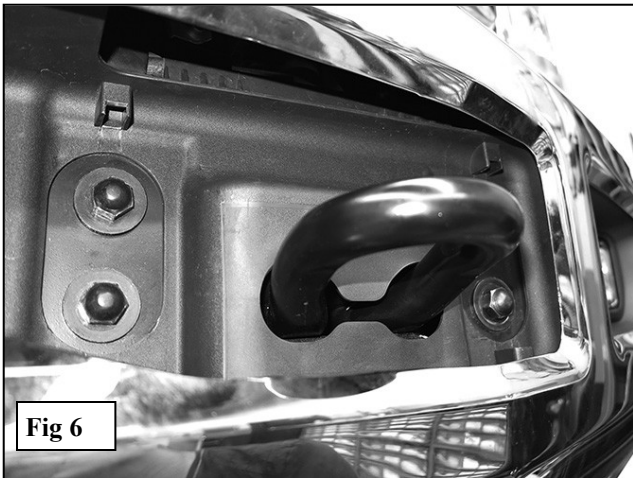

Fig 6
4. Place blocks or jack stands under the front bumper to support it during mounting bolt removal. Once the bumper has been safely supported, remove the (8) factory bumper bolts, (**Figure 6**).